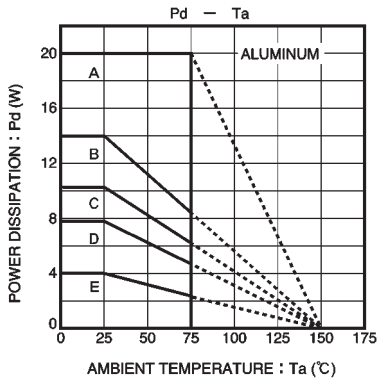

Fig. 10 Power dissipation curves (BA5415A)
*2 $T_a = 75^\circ C$ (see Fig. 10).